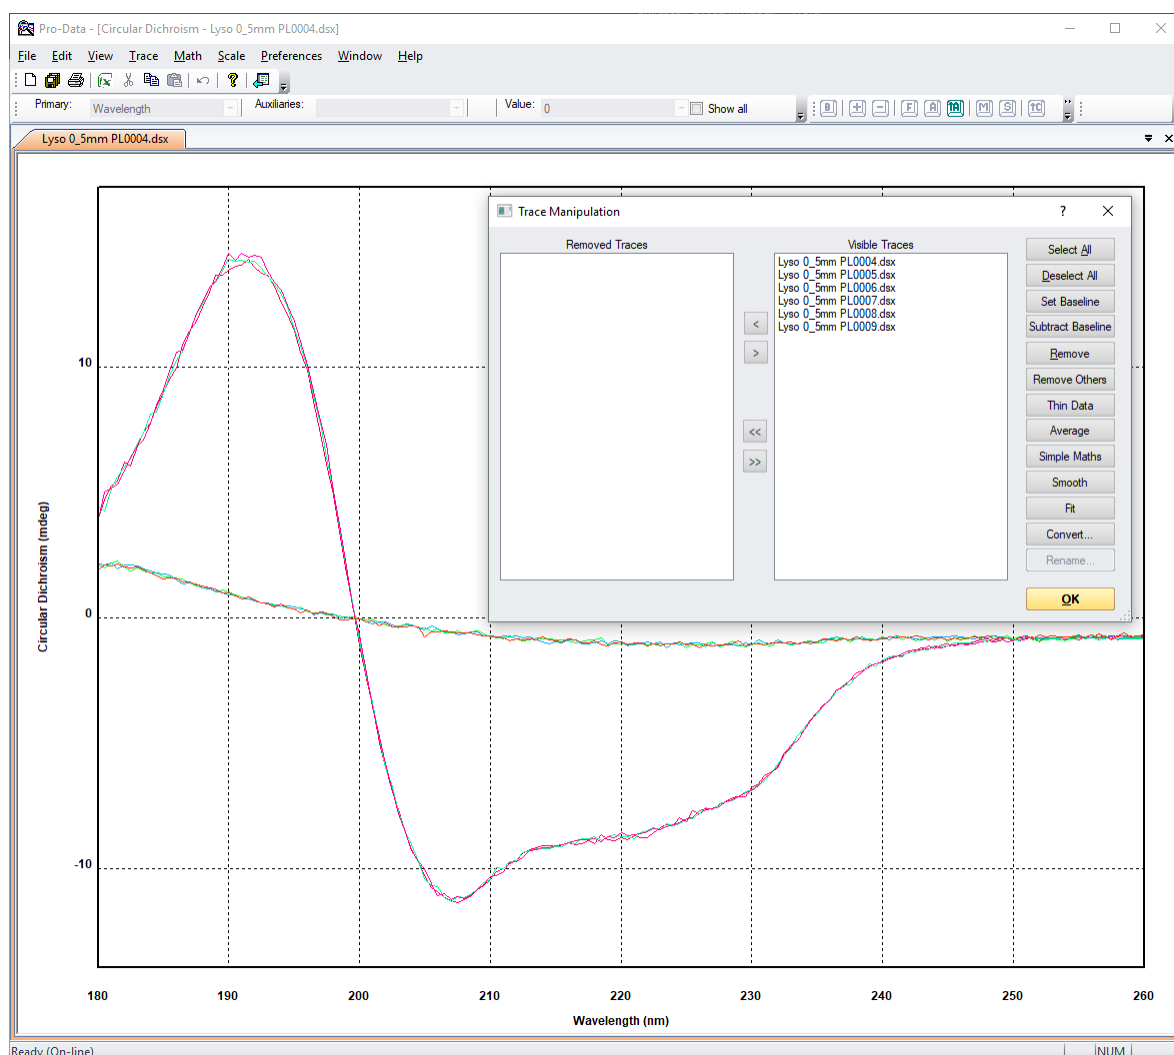

Figure 138: Raw data with Trace Manipulation dialog called up
3. Click on  in the Graphical Display[106] toolbar to call up the Trace Manipulation dialog[114] (Figure 138).